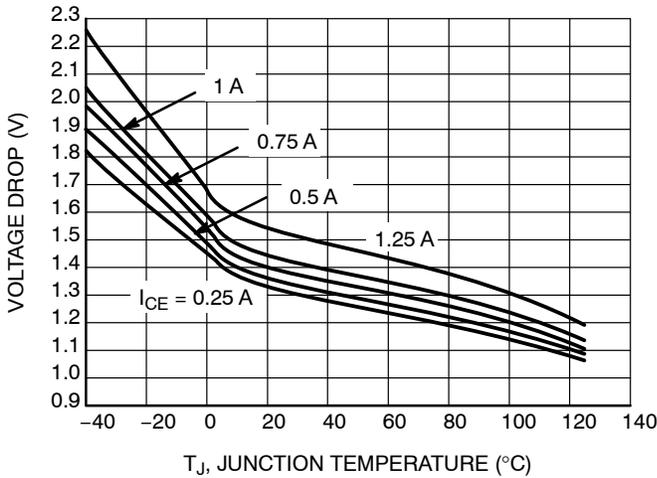

Figure 7. Emitter Follower Configuration Output Darlington Switch Voltage Drop vs. Temperature
- 8. V_{SWCE} – Darlingon Switch Collector to Emitter Voltage Drop, refer to Figures 7, 5, 8 and 9.